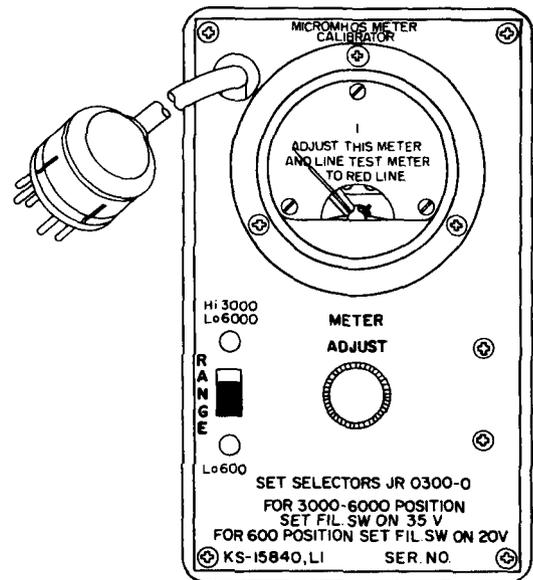

Fig. 1 — Micromhos Meter Calibrator,
2.02 The front panel (Fig. 1) contains a calibrated ac iron-vane voltmeter with controls consisting of a 2-position slide-switch designated RANGE and a potentiometer marked METER ADJUST. Brief operating instructions also appear on the front panel.